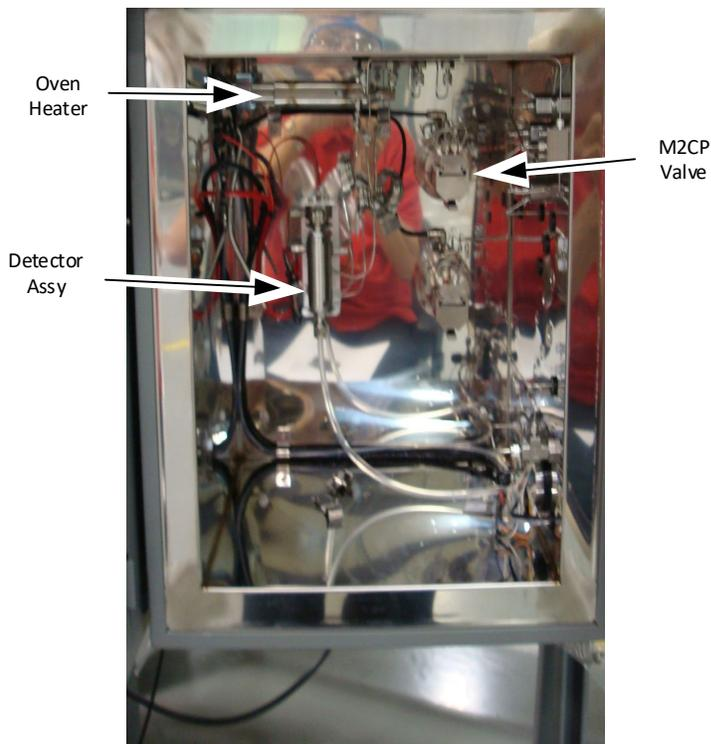

Fig. 8.8. Main Interior Components
8.3.4 Class B main interior (see Figure 8.8)